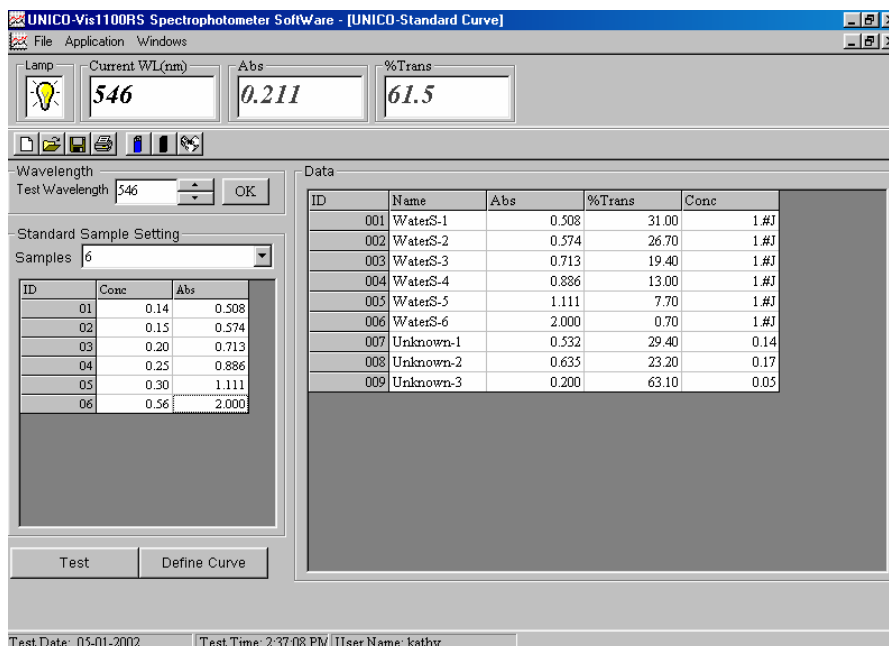
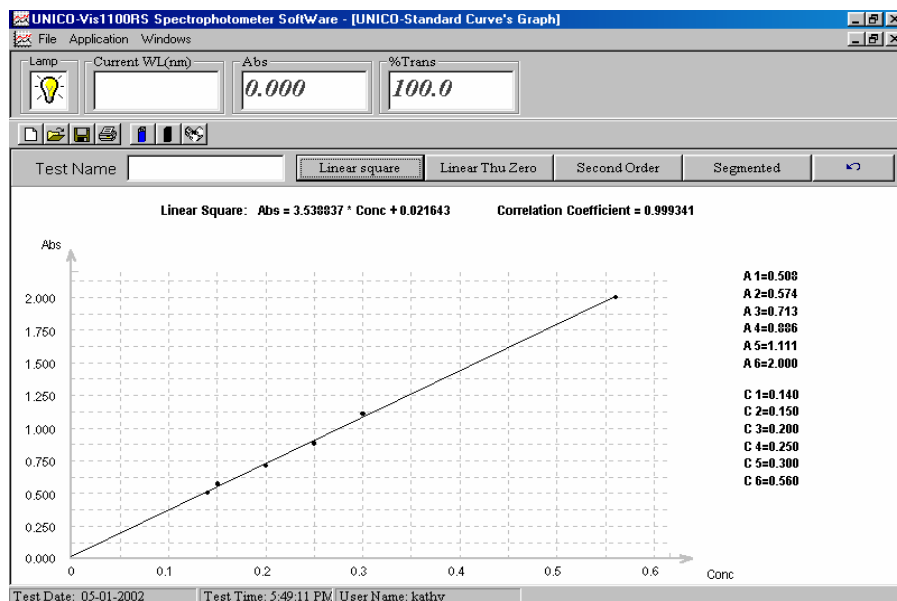
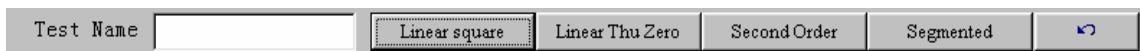

Figure-31 Sample Test Results of Standard Curve
Figure-32 Standard Curve Graph Display
Figure-33 Buttons for Standard Curve Test
- Step 5: Place the standards in the Sample Compartment in order of lowest concentration to highest concentration. Type the concentration of the standards (e.g. 0.14 here) into the Text Field starting below **Conc** label and at the right of **ID 01** as Figure-31 shown. Press **Enter** key on your computer keyboard or click with the mouse to move to the next cell. Repeat the same operation until all concentrations of the standards have been entered.
Step 6: Measure the **Absorbance** of each standard. For each measurement, insert the standard into Sample Compartment and click **Test** button. The **Absorbance** and **Transmittance** values will be recorded into the **Data Table**; then, double click in the appropriate **Absorbance** cell (**Abs**) (in the left table) next to the standard **Conc** to get the **Absorbance** for curve drawing. Continue until all of the standards have been measured (Figure-31). Alternatively, if you do not want the **Absorbance** of the standards to be recorded into the **Data Table**, you may select the appropriate **Absorbance** cell (**Abs**) (in the left table) next to the standard **Conc** and double click the mouse to get the **Absorbance** results.
Step 7: Press the **Define Curve** Button (Figure-31) to graph the **Standard Curve** (e.g. WaterS-1 to WaterS-6 are the standards) (Figure-32). You may **save** it for future use.
Step 1: Select the desired **Standard Curve** by clicking on one of the four buttons (Figure-33). Shown in Figure-32 is **Linear Squares** (Least Squares Method). Items in the equation next to the **Linear Squares** title on the graph are Abs, the slope, and y-intercept as well as **Correlation Coefficient**
Step 3: When ready to measure samples of unknown concentration, press  (arrow return button) to return to the main **Standard Curve** screen (Figure-31).
Step 4: To measure the concentration of unknowns, place the samples in the Sample Compartment and click on **Test** button (Figure-31), located at the bottom-left portion of the screen.